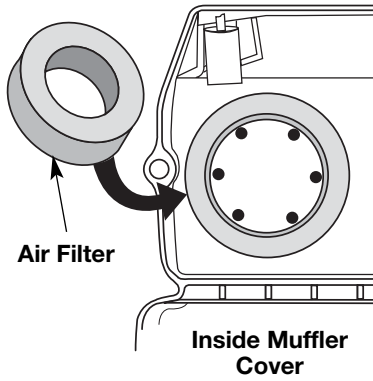

Fig. 22
2. Turn cover over and look inside to locate the air filter. Remove the air filter from inside the air filter/muffler cover (Fig. 22).
6. Replace the air filter inside the air filter/muffer cover (Fig. 22).